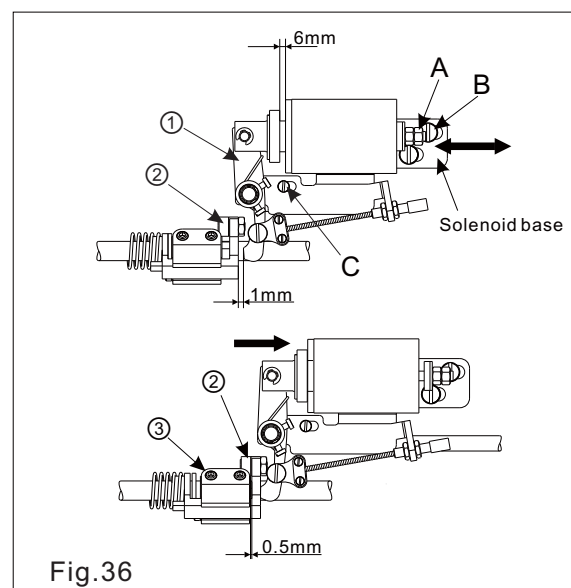

Fig.36
4. Installing the trimming solenoid (Fig.36)